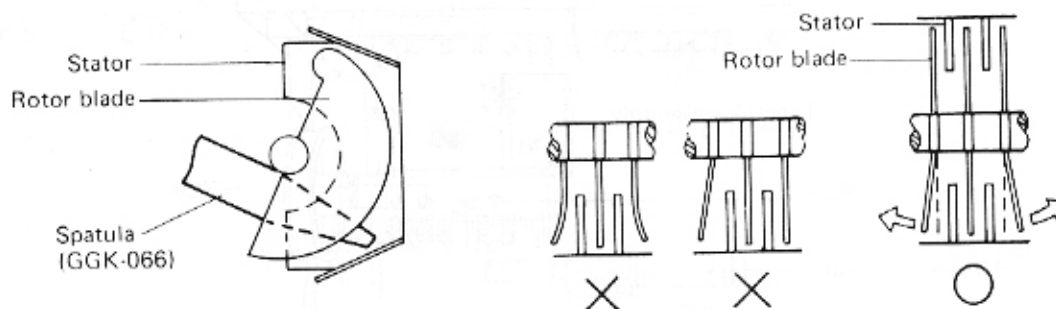

Fig. 8-3 Tuning capacitor adjustment
- The tuning coils in the FM front end does not have an adjusting core. Consequently, tracking adjustments at 90MHz are performed by regulating the gap between rotor and stator of the tuning capacitors (VC1, VC2, VC3). The expression "adjust VC" found in the text means that the two outer rotor blades of each of these tuning capacitors are to be extended outwards with spatula (Part No. GGK-066) as shown in Fig. 8-3.